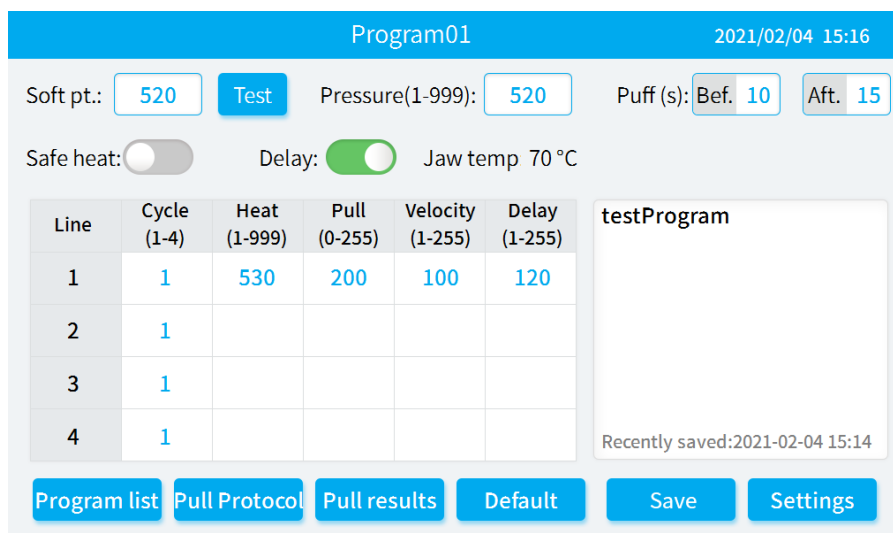

Figure 4-2
Wait 30s for the progress bar to load, enter the [Main Interface], as shown in Figure 4-2.
- 1) Click on the [Main Interface] as shown in Figure 4-2 to enter the [Softening point test] interface, as shown in Figure 4-4.
- 5) Click **OK** to enter the [Main Interface] shown in Figure 4-2, and the current softening point test value will be automatically filled in the softening point input box.
Click **Save** in the [Main Interface] as shown in Figure 4-2 to save the softening point value and all current parameters.